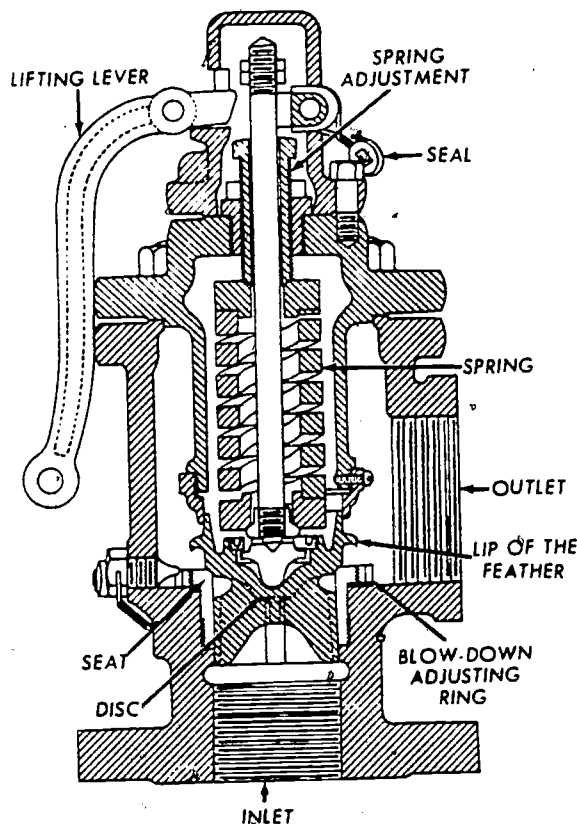

Figure 41. A typical spring-loaded safety valve.
54. The spring-loaded safety valve is often called a pop-off valve because of the characteristic sound it makes when it opens. The safety valve is equipped with a lever for manual operation. A typical spring-loaded safety valve is illustrated in figure 41. The setting and adjustment of safety valves is done only by authorized personnel. All safety valves should be properly sealed to prevent tampering with the adjustment.